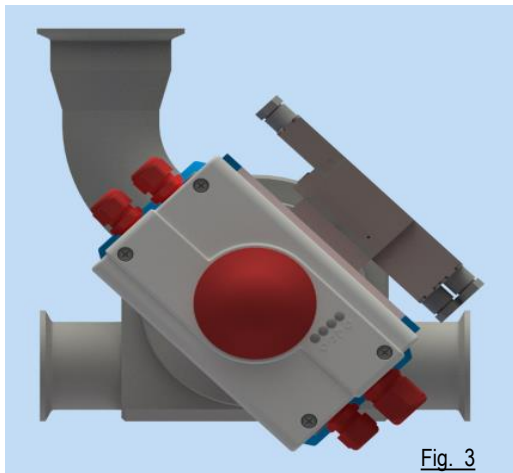

Fig. 3
- Build in position according to Figure 3